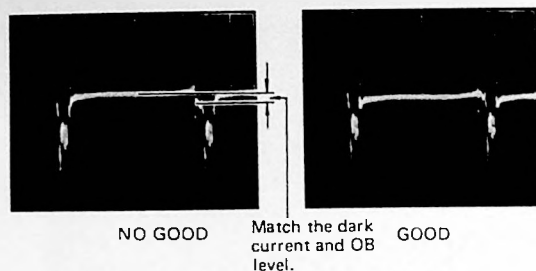

Fig. 4-4-21
- Adjust OB OFFSET VR227 so that the center portion of dark current level matches the optical black (OB) level. (Fig. 4-4-21)